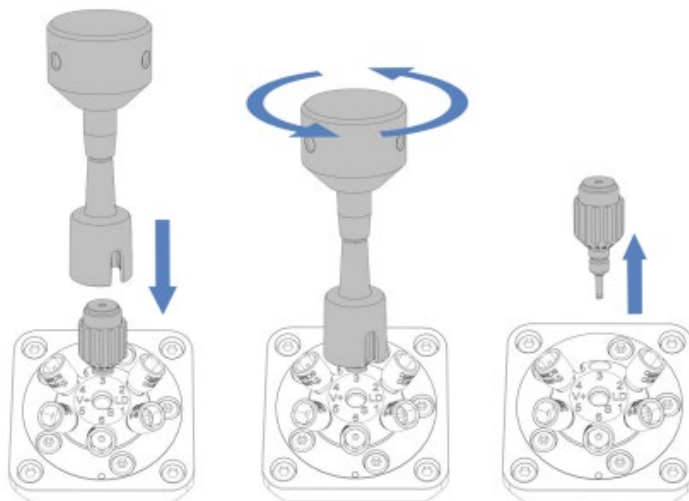

Figure 46: Removing the needle seat with the torque screwdriver
- Use the torque screwdriver tool with the needle seat bit attachment (Figure 46) to remove the needle seat.